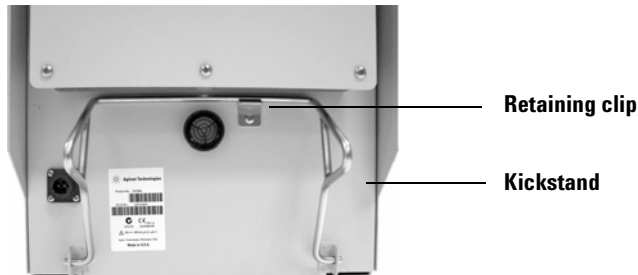

Figure 14 Releasing the kickstand.
- 2 Release the kickstand from its locked position. See Figure 14.